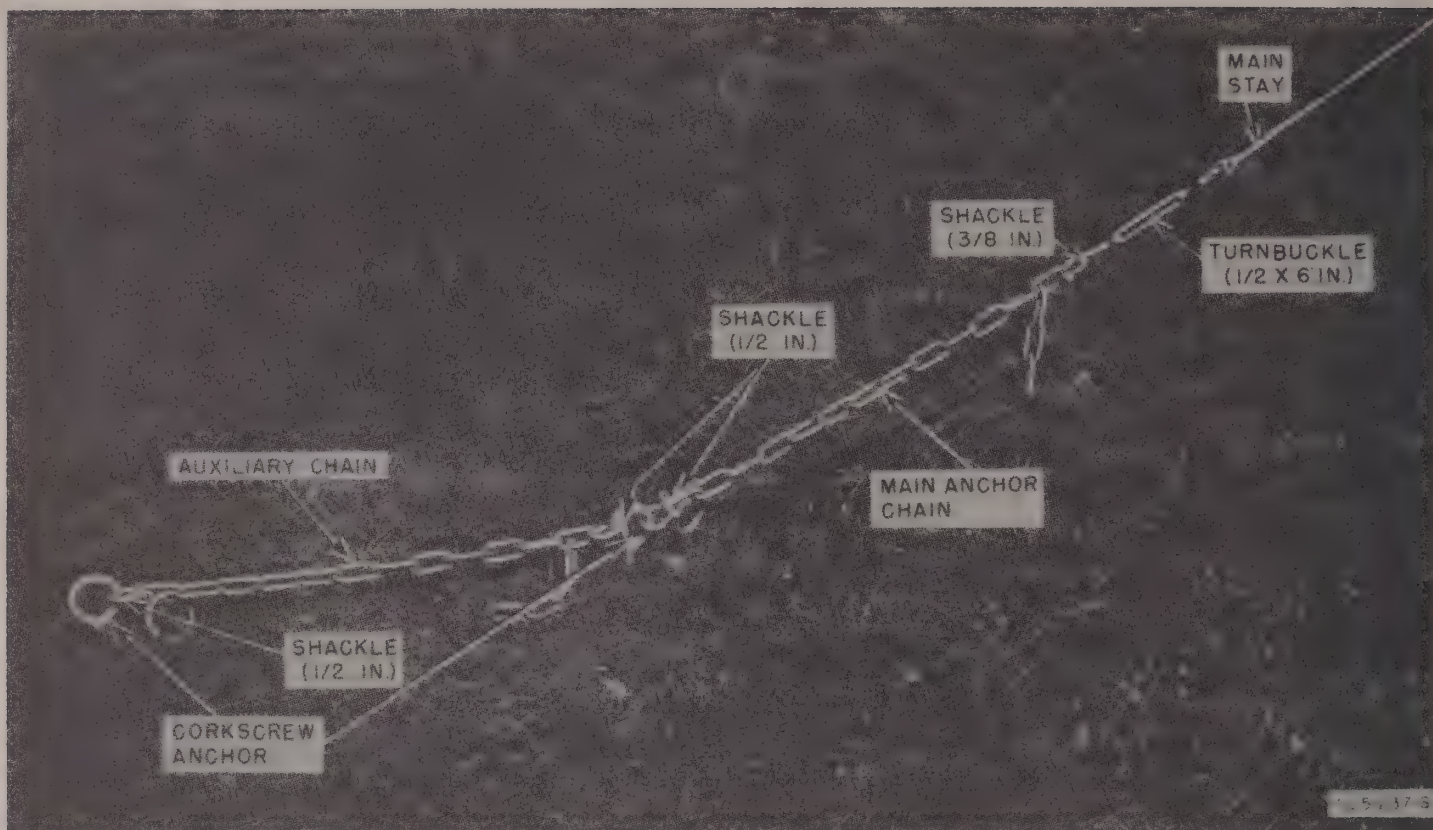

Figure 16. Main stay and anchor assembly.
(1) With $\frac{3}{8}$ -inch shackles, connect the main stay to the main anchor chain.
(2) The auxiliary main stay anchor can now be attached to the main stay anchor. Pull the chain taut; using a $\frac{1}{2}$ -inch shackle, connect the proper link of the chain to the main stay anchor (fig. 16).
(3) Adjust the main stay to the desired tension with the turnbuckle ($\frac{1}{2} \times 6$ in.). The tension required depends upon the pull exerted on the mast by the attached antenna.